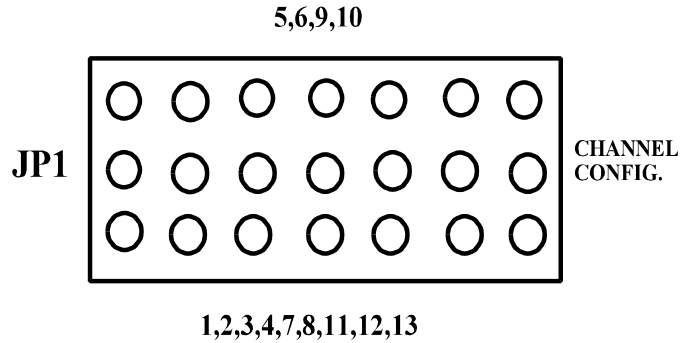

Figure 1 ASM Card Jumper Block
6. On both the operational and spare ASC, set the backup channel configuration using the seven jumpers on JP1. Using all seven jumpers, move the jumpers to the side of the block that lists the number of output channels for your site configuration, the center row of pins being common. Example: Using figure 1 as a reference, if your site configuration had 5, 6, 9, or 10 channels, each jumper would connect from the center row of pins to the top row of pins. If your site configuration had 1, 2, 3, 4, 7, 8, 11, 12, or 13 channels, each jumper would connect from the center row of pins to the bottom row of pins.